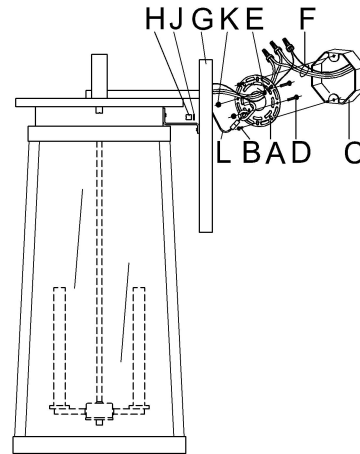

Fig.2
CONNECTING THE WIRES (Fig. 2)
6. Connect the electrical wires as shown in Fig.2. Make sure that all wire connectors are secured. If your outlet box (C) has a ground wire (green or bare copper), connect the fixture's ground wire to it. Otherwise, connect the fixture's ground wire directly to the mounting plate (A) using the green screw (E) provided.
7. Tuck the wire connectors neatly into the outlet box (C).